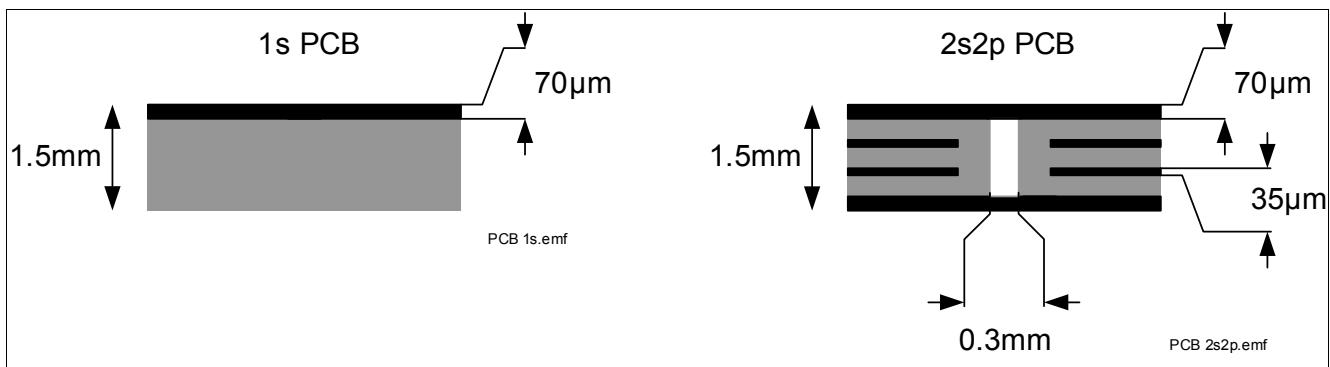
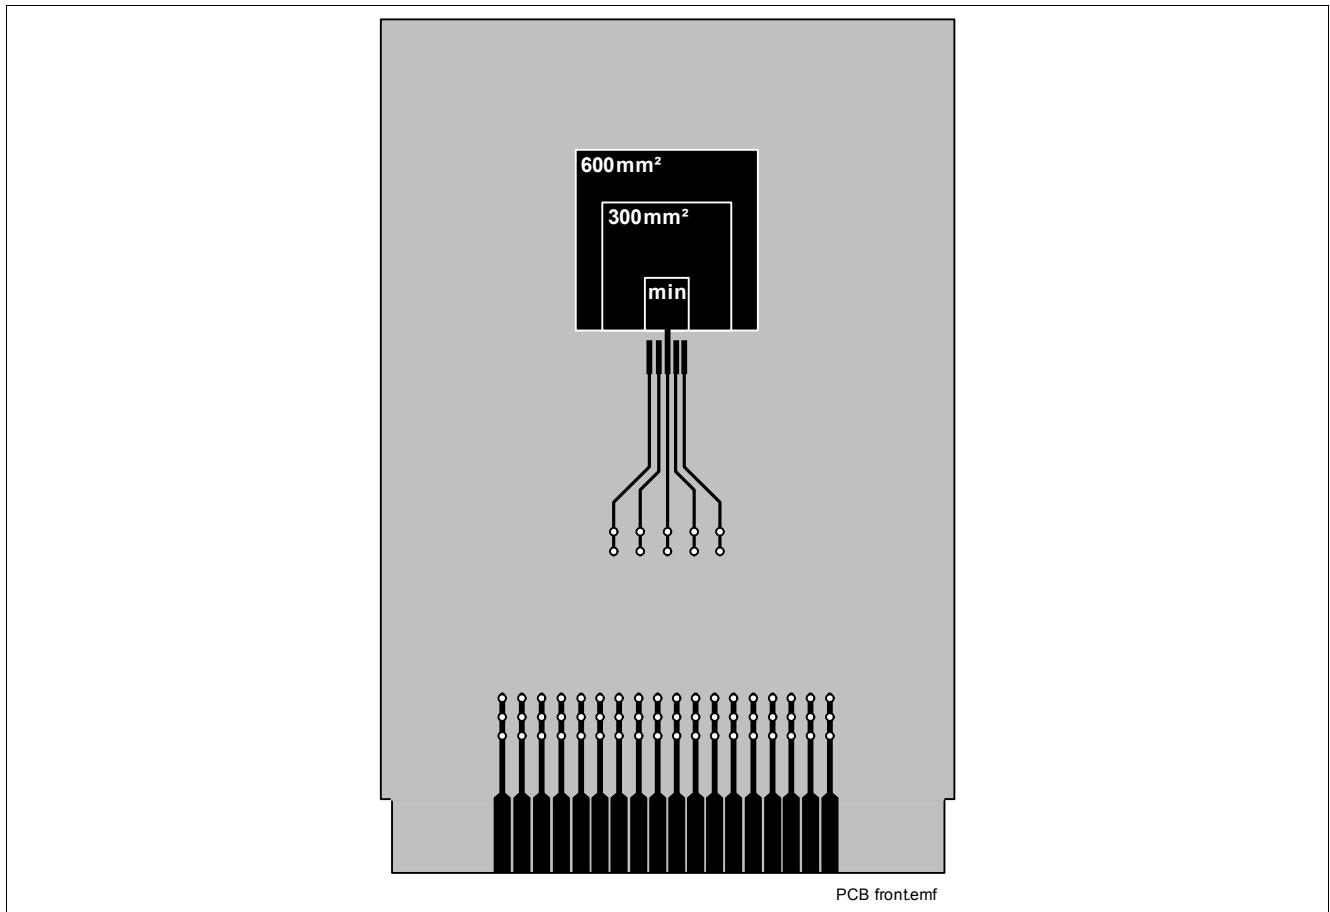

Figure 8 Cross section of 1s and 2s2p PCB used for  $Z_{thJA}$  simulation
Figure 9 Front view of PCB layout used for  $Z_{thJA}$  simulation
**Figure 6** and **Figure 7** are showing the typical thermal impedance of BTF50060-1TEA mounted according to Jedec JESD51-2,-5,-7 at natural convection on FR4 1s and 2s2p board. The product (chip + package) was simulated on a 76.4 × 114.3 × 1.5 mm board with 2 inner copper layers (2 × 70 $\mu$ m Cu, 2 × 35 $\mu$ m Cu). Where applicable, a thermal via array under the exposed pad contacted the first inner copper layer. The PCB layer structure is shown in **Figure 8**. The PCB layout is shown in **Figure 9**.